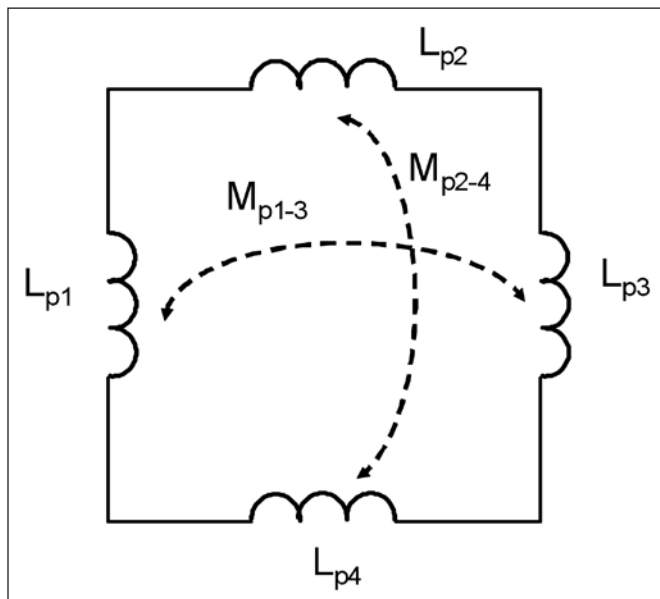

Figure 1: Partial Inductance Components of Simple Rectangular Loop
Partial inductances can be combined to find the overall loop inductance. For the simple case of a rectangular loop of wire where sides 1 and 3 are parallel to each other and sides 2 and 4 are parallel to each other (see Figure 1, page 40), equation (1) can be used to calculate the total inductance from the partial